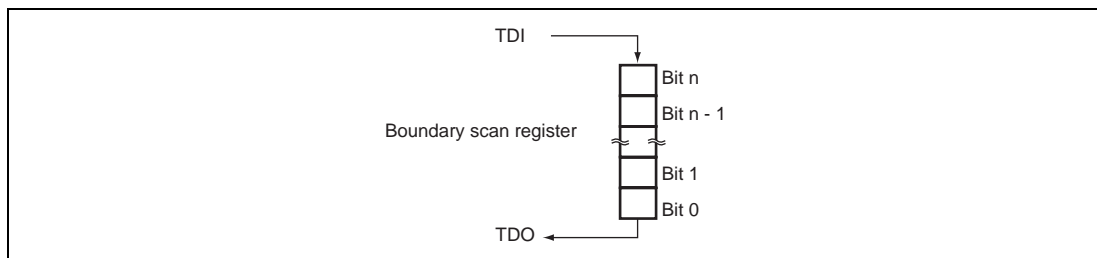

Figure 13.5 Serial Data Input/Output
- In serial communication, data is input or output from the LSB as shown in figure 13.5.